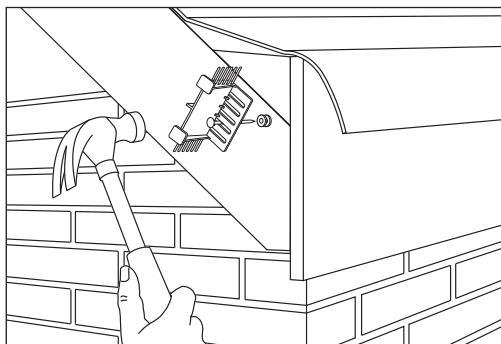

Fig 3 Mechanically fix starter unit
- 8 Once removed, re-locate starter insert in marked position and mechanically fix through spacer supplied, trapping between starter insert and gable wall or bargeboard (Fig 3).